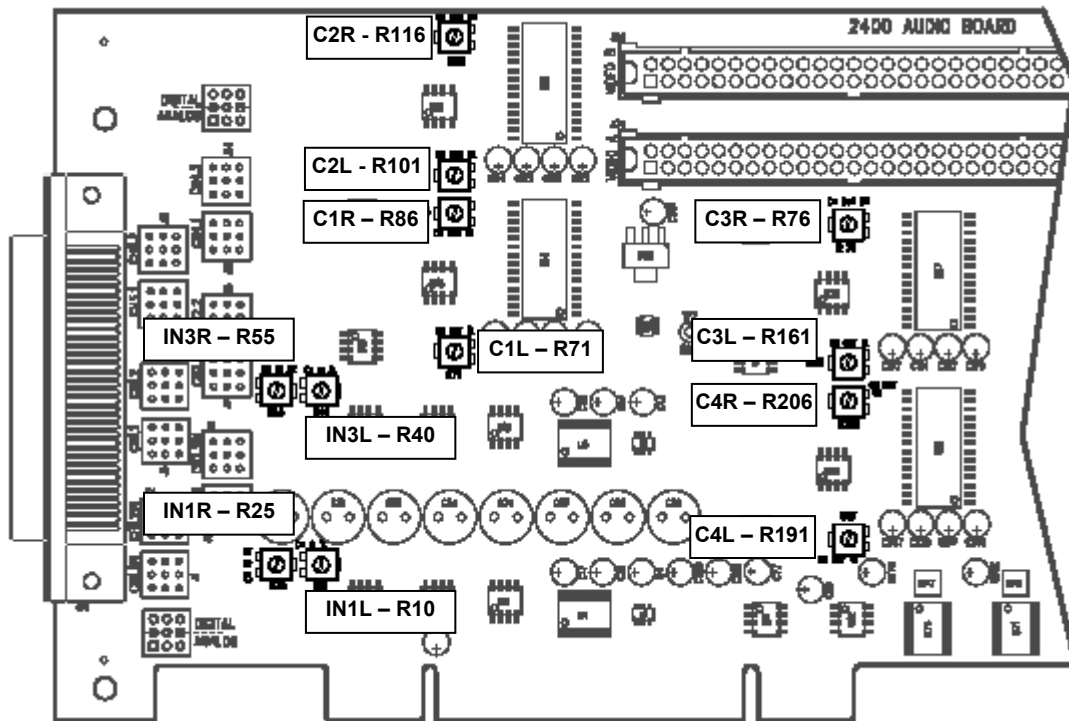

Figure 53 - Audio Board Trimpot Location
4. Configure the jumpers according to the ANALOG setting. See Figure 53
Refer to Figure 53 for the location of trim pots and jumper blocks referred to in the calibration procedures. Table 4 Indicates mapping to audio channels.